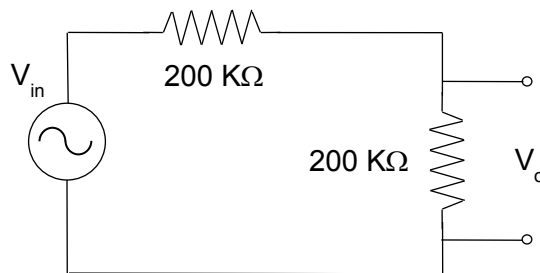

Figure 1. Voltage divider circuit for Part II.
3. Use the Signal Generator to apply an 80 Hz, 3 volt zero-to-peak sine wave to the voltage divider shown in Figure 1. Use the oscilloscope with a $\times 10$ probe to measure V_{in} and V_o . With the oscilloscope still connected to V_o , use the DMM to measure V_o . Note any effect on the oscilloscope readings resulting from connecting the DMM to the circuit. Compare the DMM readings with the values measured by the oscilloscope, on the basis of a percentage change in the readings. Record the measurements before and after adding DMM. Based on your observations, what should you conclude?
5. With only the oscilloscope still connected across V_o of the voltage divider of Figure 1, apply a 300 KHz, 3 volt zero-to-peak sine wave to the circuit. Now, use the DMM to measure V_o . Note any effect on the oscilloscope readings resulting from connecting the DMM to the circuit. Save your data before and after adding the DMM. Repeat these observations with a square wave input and observe the waveforms. Comment on your observations in your lab notebook and the report.
6. Disconnect the oscilloscope from the circuit and replace the 200 K Ω resistors in Figure 1 with 10 M Ω resistors. Now, use the DMM to measure V_o , for an 80Hz, 3 volt zero-to-peak input. Comment on the measured voltage, relative to your expectations.
- (a) Diagram of Figure 1.